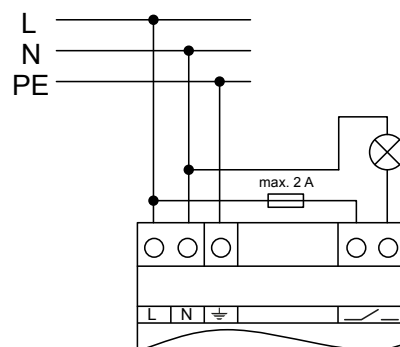

Figure 5: Application example – signal lamp for optical operating display
- Connect the signalling device according to the connection example (see figure 5).